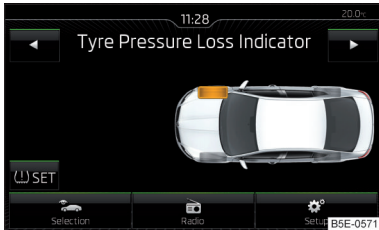

Fig. 176
- › Press the function key **(!)** SET » Fig. 176 button.
When warning light **(!)** lights up in the instrument cluster, the affected tyre can be displayed in Infotainment » Fig. 176.